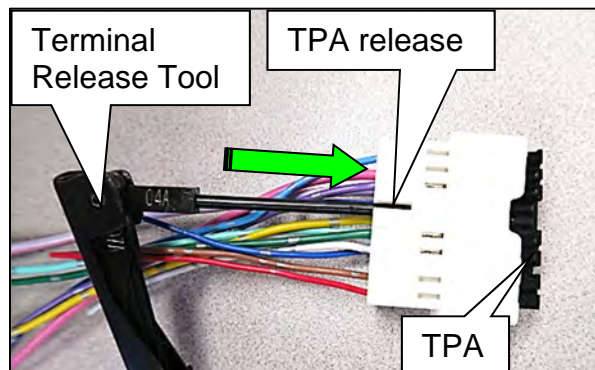

Figure 21
21. Insert the 04A tool into the TPA release, and then push the TPA toward the terminal side of the wire harness connector, as shown in Figure 21.